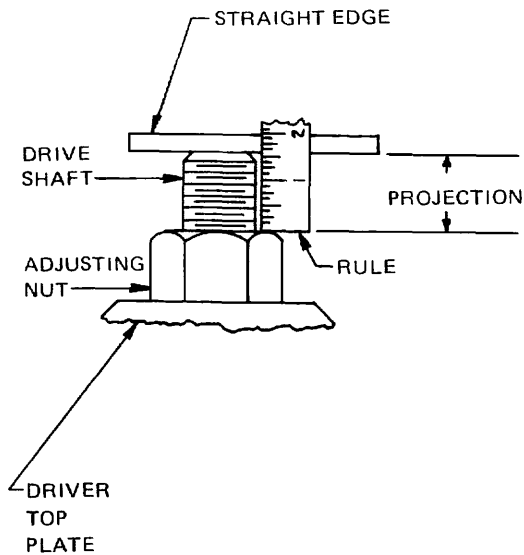

FIG. 9. — MEASURING PROJECTION OF DRIVE SHAFT.
1. Install the adjusting nut and screw it on the head-shaft, raising the shaft until the entire weight of the line shaft and impellers rests on the adjusting nut. This is the point where the impellers just leave their seat in the bowls and the line shaft begins to turn freely. A slight lowering of the shaft at that point allows the impellers to drag, preventing the shaft from turning. Measure the shaft projection above the adjusting nut per FIG .9. Record the actual measurements.